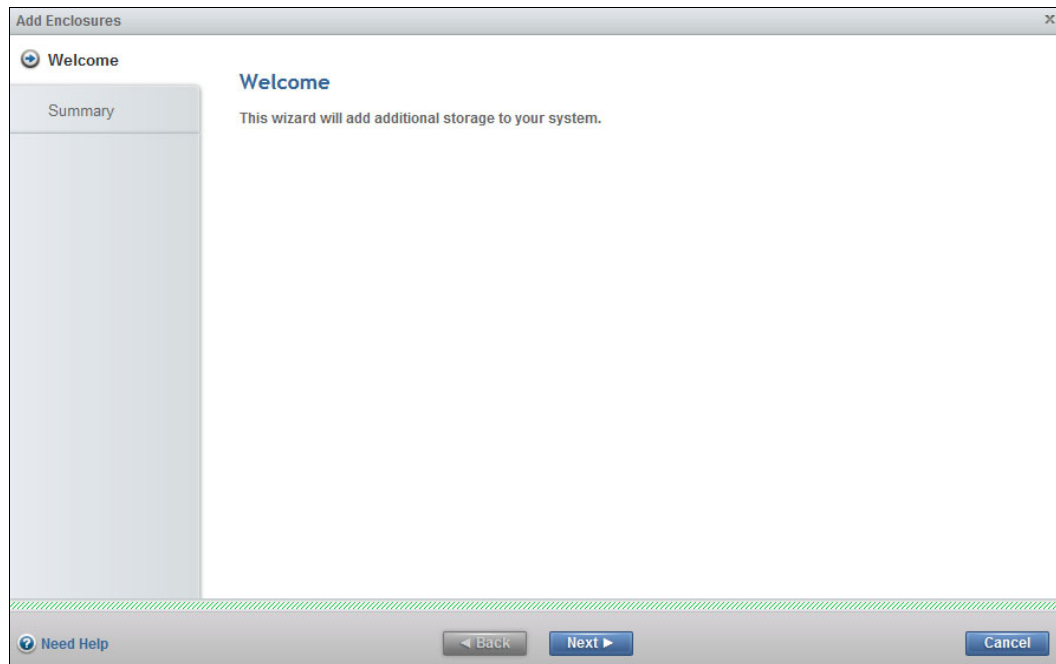

Figure 5-6 Add Enclosure Wizard
3. Click to open the Welcome page of the Add Enclosures wizard (Figure 5-6).